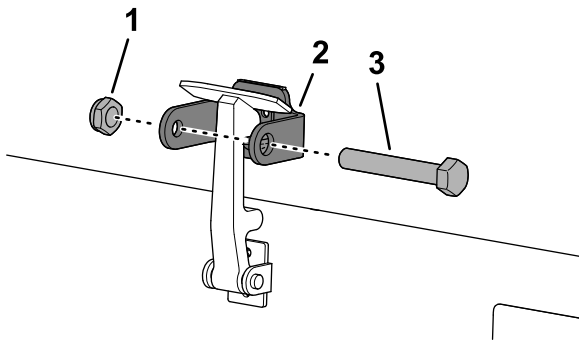

Figure 33
7. Screw the bolt into the other arm of hood-lock bracket to lock the latch in position (Figure 33).